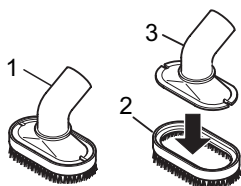

Fig. 6
- **Furniture brush (Fig. 6/1)**
- **Upholstery nozzle (Fig. 6/3)**
By simply removing the brush attachment (Fig. 6/2) you can make an upholstery brush (Fig. 6/3) from the 2-in-1 combi-nozzle. Use this to clean soft, scratch-resistance surfaces (e.g. upholstered furniture).